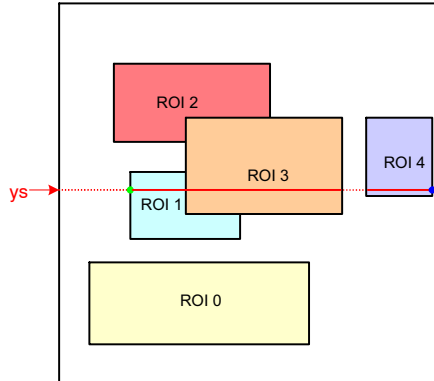

Figure 25. Scanning the Image Array with Five Subwindows
Figure 25 illustrates a practical example of a configuration with five windows. The current position of the read pointer (ys) is indicated by a red line crossing the image array. For this position, three windows need to be read out. The initial start position for the x-kernel pointer is the x-start configuration of ROI1. Kernels are scanned up to the ROI3 x-end position. From there, the x-pointer jumps to the next window, which is ROI4 in this illustration. When reaching ROI4's x-end position, the read pointer is incremented to the next line and xs is reinitialized to the starting position of ROI1.
- The read pointer is not necessarily incremented by one, but depending on the configuration, it can jump in y-direction. For Figure 25, this is the case when reaching the end of ROI0 where the read pointer jumps to the y-start position of ROI1.